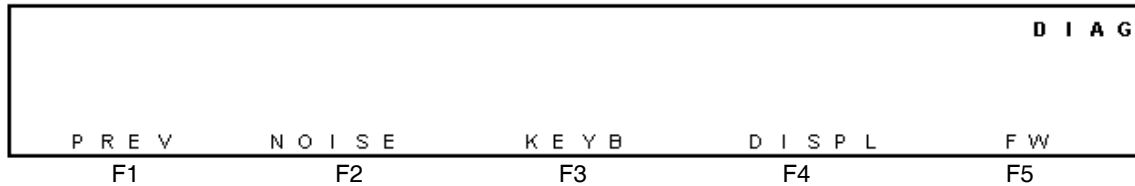

Figure 5-3 Diagnostics Screen
- a. From the Main screen, select **F5 DIAG**. The Diagnostics screen appears (Figure 5-3).